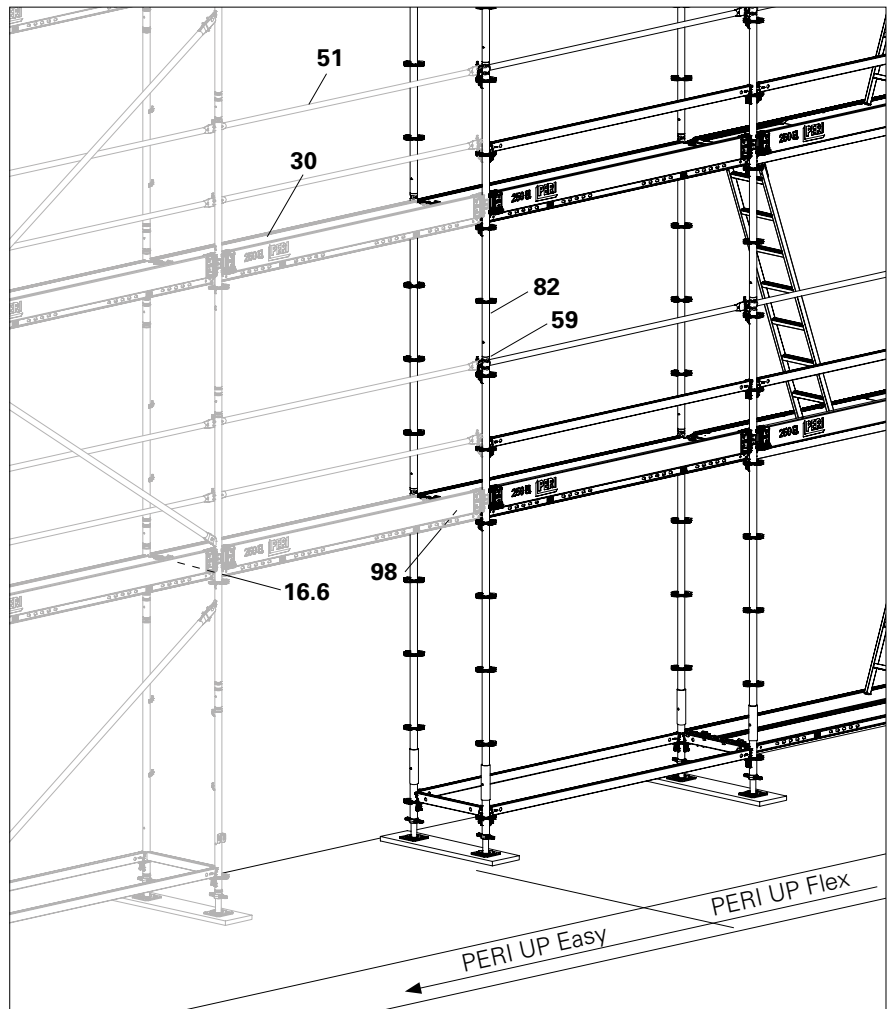

Fig. C1.02
The Flex area is erected as stand-alone scaffold according to the Instructions for Assembly and Use for PERI UP Flex. (Fig. C1.02)
1. Insert Guardrail Holder EPW (59) into the rosettes of the Standards UVR-2 (82). Guardrail hooks must point inwards towards the deck. Secure the wedges.
3. On one side, insert steel decks into the crossbar (16.6) of the Easy Frame EVF and, on the other side, into the Horizontal Ledger UH-2 67 (98).
- (Fig. C1.02 + C1.03)